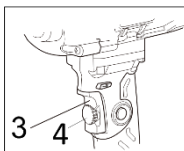

Fig. 4
This drill is equipped with a variable-speed ON/OFF trigger switch with speed control dial 1. To start the drill, gently squeeze the trigger switch (3) (Fig. 4).
This feature enables you to pre-set the tool for a desired RPM when using the “Lock-On” button feature. The tool speed is adjusted by rotating the “speed control” dial (4) (Fig. 4) clockwise to increase the speed and counter clockwise to decrease the speed. Once you